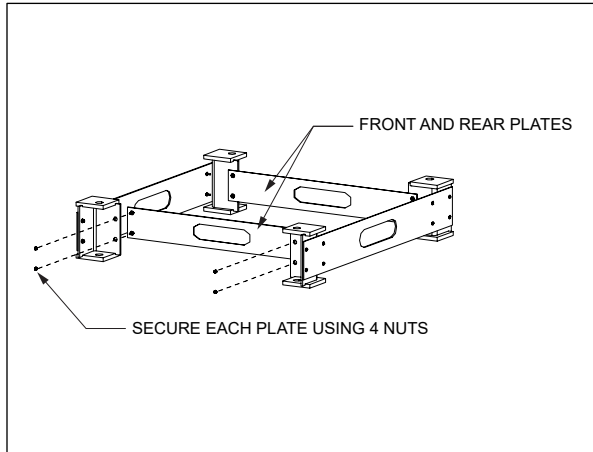
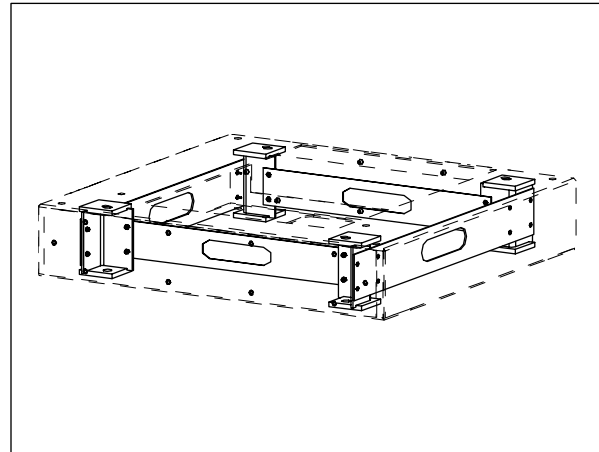

**Figure 5 Remove Flat Plate from Corners**
**Figure 6 Re-attach Flat Plate in Outer Position**
1. As shipped, the corner brace assembly is constructed with the flat plate secured to the corner pieces at the inner pairs of studs (Figure 5). Re-position the flat plate so that it is secured at the outer stud positions (Figure 6).